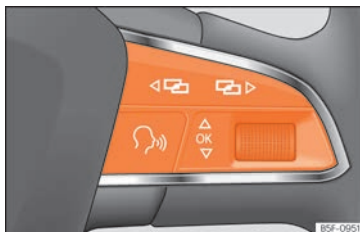

Fig. 81 Multifunction steering wheel: buttons for using the instrument panel menus.
hidden with the button **OK** of the multifunction steering wheel »» Fig. 81.
- If a message or vehicle symbol is displayed, press the button **OK** »» Fig. 81; if necessary, several times.
- To change menus, use buttons **<** or **>** »» Fig. 81.
- To open the menu or the information displayed, press the button **OK** »» Fig. 81 or wait a few seconds until the menu or the informative display opens automatically.
- In the menu displayed, turn the right thumb-wheel of the multifunction steering wheel »» Fig. 81 until the desired option of the menu is highlighted. The option appears framed.
- Press the button **OK** »» Fig. 81 to make the required modifications. A mark indicates that the system or function is activated.
Press the button **<** or **>** »» Fig. 81.